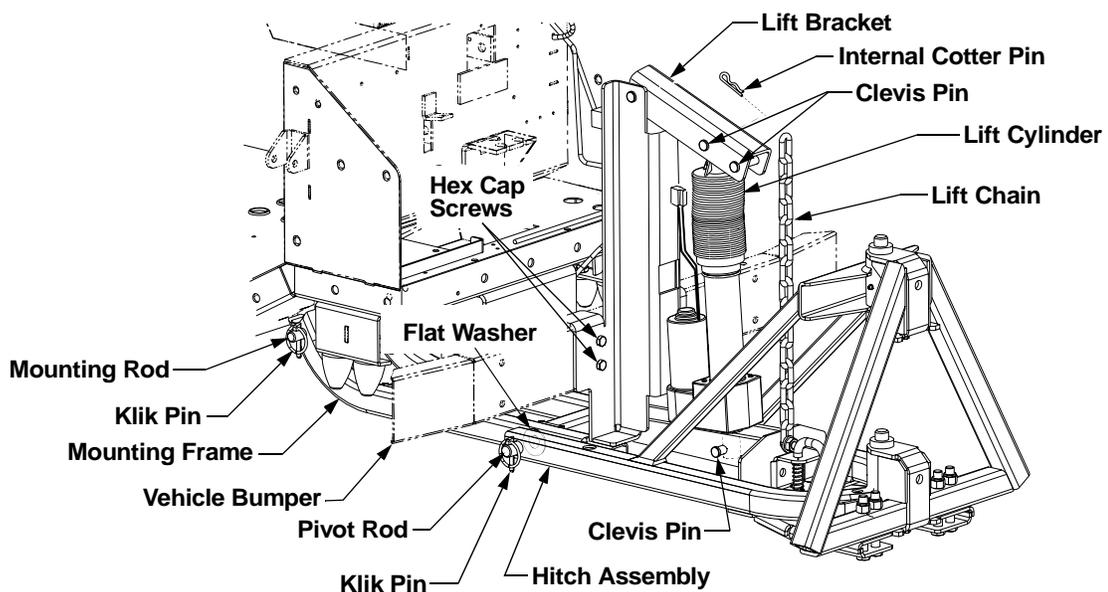

Figure 5
- Lift and hold the mounting frame (1) in position on the front bumper and the frame axle bracket.
- Insert the four hex cap screws (4) through the mounting frame and vehicle bumper and fasten with the four hex flange lock nuts (9). Do not fully tighten the fasteners now. See Figure 5.
- Lift the locking ring on one klik pin (11) and insert through the hole on one end of the mounting rod (6). Flip the locking ring downward to lock.
- From beneath the vehicle, align the holes in the mounting frame with those in the vehicles's axle bracket, then insert the mounting rod fully through the mounting frame and axle bracket. Secure the mounting rod with a klik pin (11). See Figure 5
- Insert a klik pin (11) into the hole at one end of the pivot rod (7) and lock.
- Insert the other end of the pivot rod just through one of the rear holes of the hitch assembly (2), then slide a flat washer (18) onto the rod. Refer to Figure 5.
- With the flat washer between the hitch assembly and the mounting frame, align the holes in the hitch assembly with those in the mounting frame and push the pivot rod (7) fully through the mounting frame only. Refer to Figure 5.
- Slide the second flat washer (18) between the other side of the mounting frame and the hitch assembly, and push the pivot rod through the washer and hitch assembly. Secure the pivot rod with the last klik pin (11).
- Place the bottom of the electric lift cylinder (14) onto the channel at the front of the mounting frame.
- Align the hole in the bottom mounting shaft of the lift cylinder with the hole in the mounting frame channel and insert a clevis pin (8) through the channel and cylinder mounting shaft. Secure with and internal cotter pin (12). See Figure 5.
- Flip the lift bracket (3) up and forward in the mounting frame. See Figure 5.
- Insert a clevis pin (8) through the lift bracket and upper cylinder shaft and secure with an internal cotter pin (12). Refer to Figure 5.
- Insert the last clevis pin (8) through the lift bracket and chain, and secure with the last internal cotter pin (12). Refer to Figure 5. **NOTE:** *Adjust the chain length as necessary following the instructions in the specific equipment Operator's Manual.*
The front hitch may be removed either as a complete assembly, or by disassembling. Refer to Figure 5 and proceed as follows: